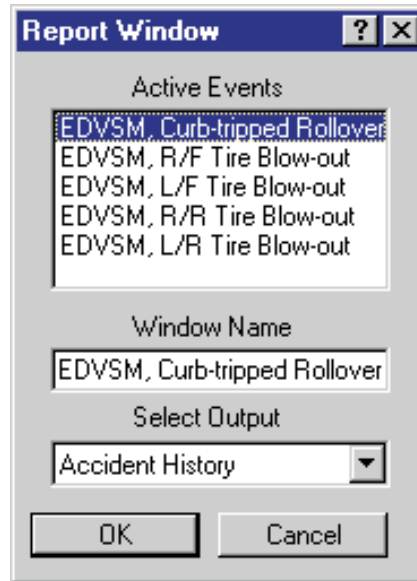

Figure 5-16 Report Window Information dialog, showing the name of each event in the current case.
- Click *Add New Object*. The Report Window Information dialog is displayed, as shown in Figure 5-16, and includes a list of the active events (*EDVSM, Curb-tripped Rollover* is the event whose output we'll review in this tutorial). The Report Window Information dialog also includes the user-editable *Report Window Name* text field and *Selected Output* option list.